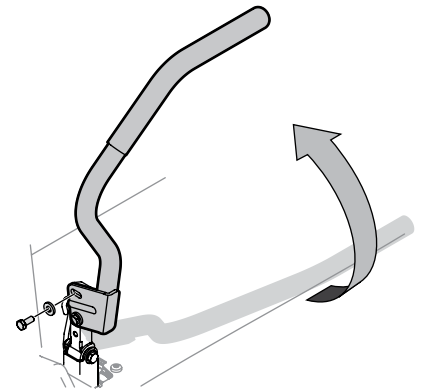

Figure 7
1. Pivot the right lap bar upward and fasten it to the mounting bracket with a hex screw and flat washer packed separately. Refer to Figure 7. Do *not* tighten at this time.